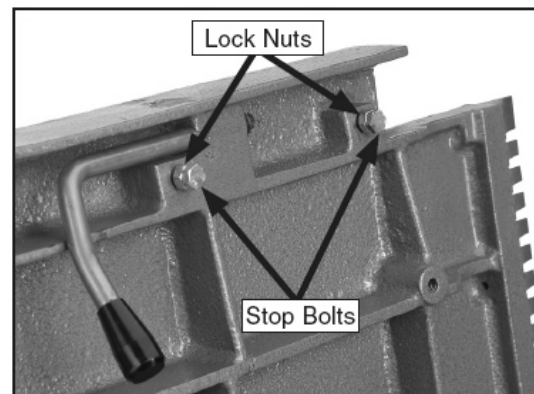

Figure 33. Outfeed table stop bolt and lock nut.
1. Loosen the lock nuts on both stop bolts shown in **Figure 33** at the front of the table.